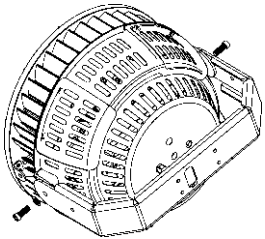

Figure 3
- Step 1: Fix the mounting adaptor vertically on the heat sink; (Figure 3);